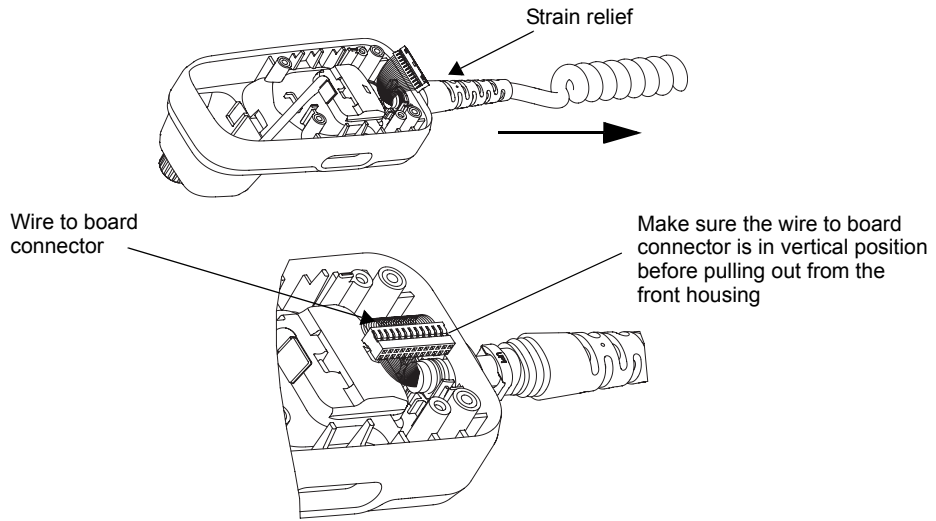

Figure 6-28 Spiral Cord Cable Removal from Front Housing
- 8. Remove the spiral cord cable from the Cradle front housing by pulling back the strain relief and carefully push the wire to board connector in vertical position out from the Cradle front housing as shown in Figure 6-28 below.